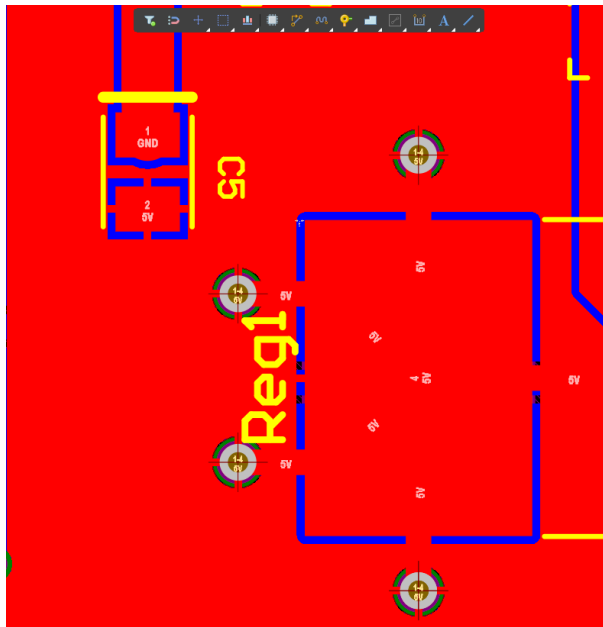

Figure 25. Move C5 to resolve violations
57. Move component C5 to the left so that it is no longer overlapping the violating pad of Reg1 as shown in Figure 25.
58. Altium start an automatic Re-route from Pad 1 of component C5 to the **GND** Pad that it was just connected to so that it looks similar to Figure 25. Feel free to first Shelf the Polygon.